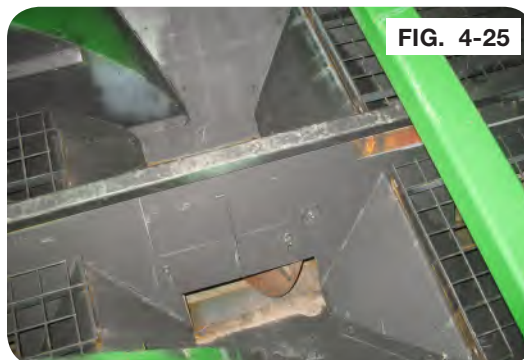

FIG. 4-25
9. Remove the center screens inside the hopper by removing the 3/8" hardware holding them in place. (FIG. 4-25)